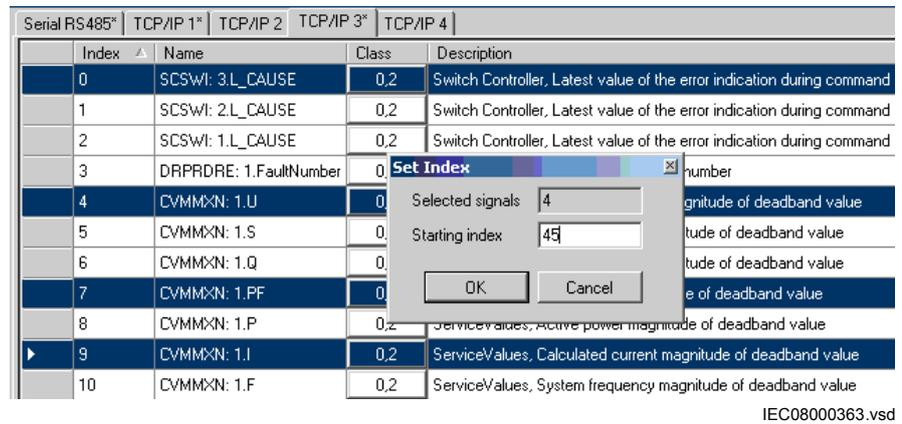

Figure 67: CMT: Set Index menu
- The selection window shows the number of signals selected, see Figure 67.